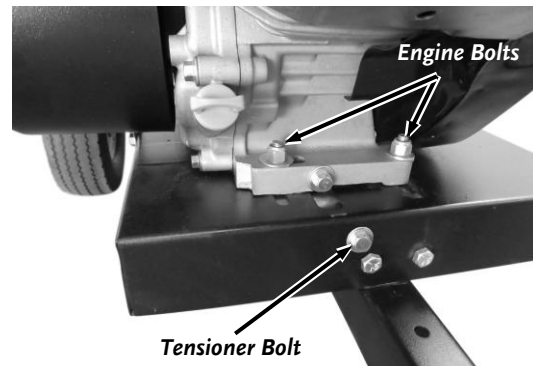

Figure 31
4. Loosen the four Engine Bolts (two on the left side and two on the right side) (**Figure 31**).
8. If the measurement is not correct, tighten or loosen the Tensioner Bolt as needed (**Figure 31**).